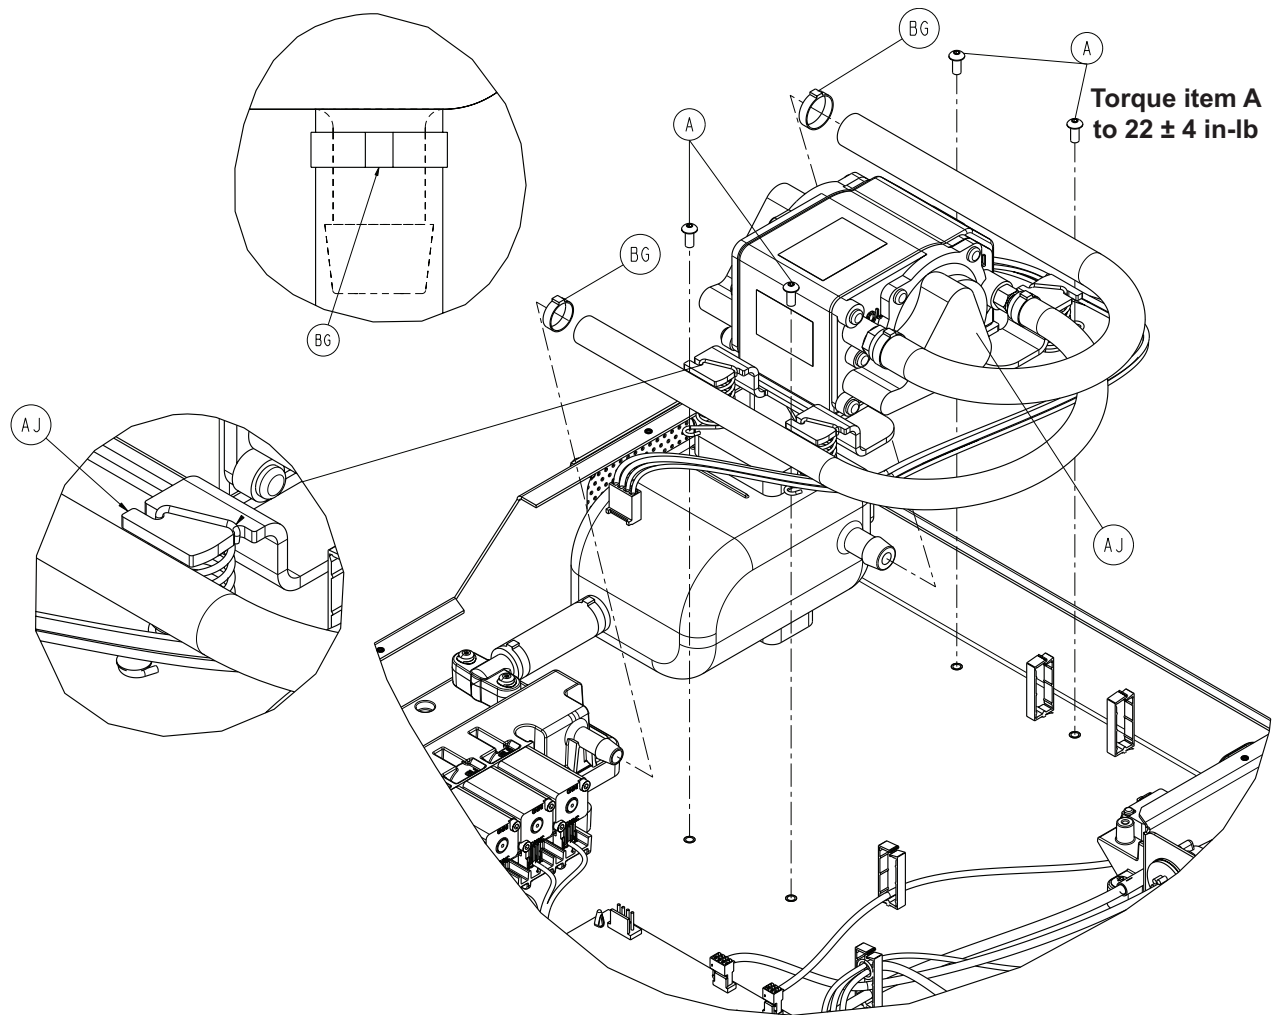

Figure 17 – Pump assembly
4. Using diagonal pliers, cut the cable ties where the inlet hose connects to the manifold (BG) and the exhaust hose connects to the resonator (Figure 17). Do not cut the manifold barb.